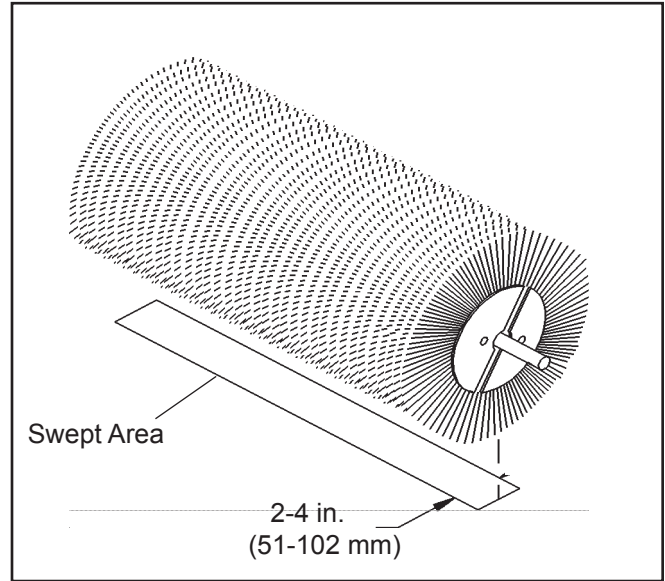

Figure 1
4. Raise the sweeper and back away; switch off the engine and remove the key. The brush pattern left in the dust should be 2-4 inches (51-102 mm) wide, running the length of the brush. (Compare the swept area with (figure 1))